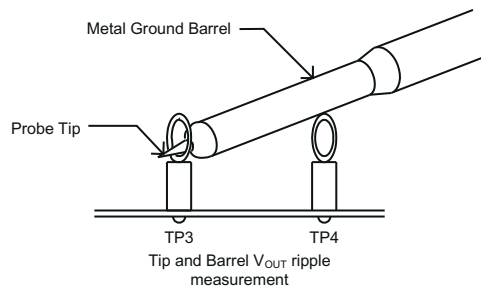

Figure 8-1. Tip and Barrel Output Voltage Ripple Measurement
3. Connect oscilloscope probe with exposed metal barrel to TP3 and TP4 per Figure 8-1. Using a leaded ground connection may induce additional noise due to the large ground loop.